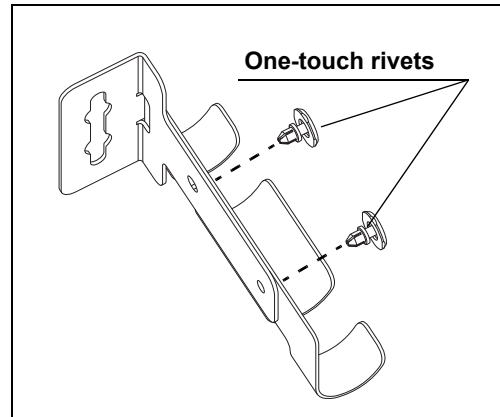
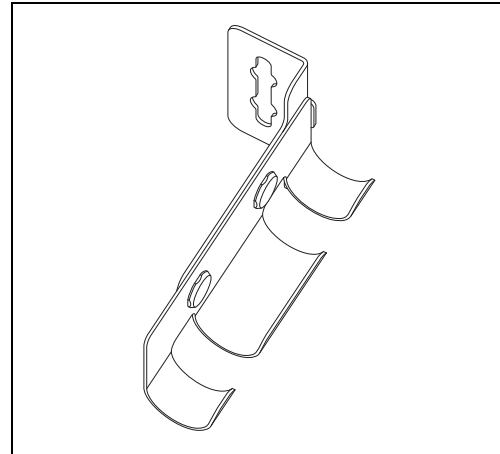

Figure 3.3
Figure 3.4
- 2** Align the holes of the bracket and the hanger part and insert the one-touch rivets into the holes from the hanger part side (see Figure 3.3). Insert the new one-touch rivets until they hit the surface of hanger part, and secure the bracket to the hanger part. (See Figure 3.4)